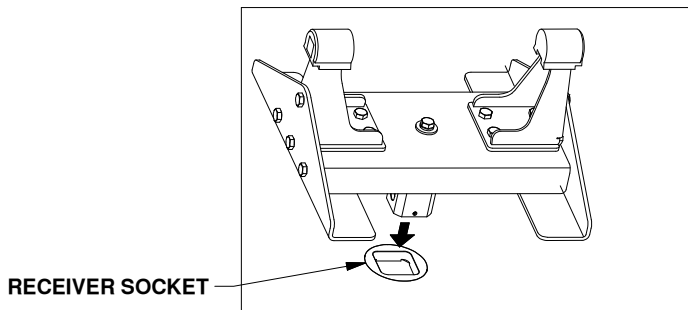

Figure D2: View over truck bed.
3. **Place base.** Carefully lift and position the Companion base into the hitch receiver socket in the back of the truck bed, as shown in Figure D2.